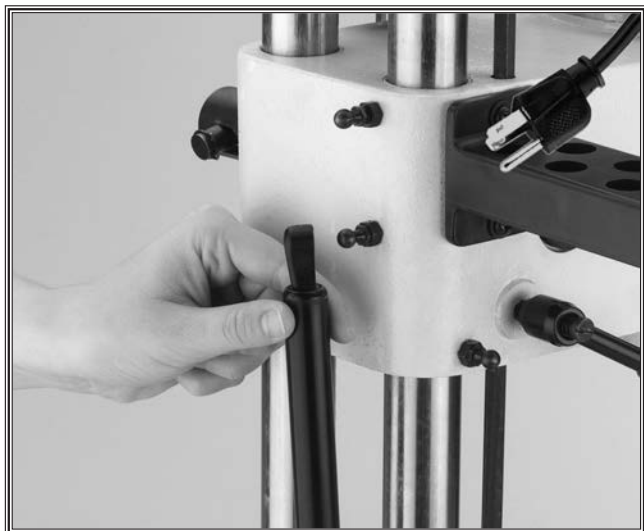

Figure 27. Snapping gas spring into place.
3. Snap the gas spring into place over the desired ball-end junction locations (**Figure 27**). It may be necessary to compress gas spring slightly or to further lift or lower the head using the handle to align the sockets in the gas springs with the ball-end junctions.